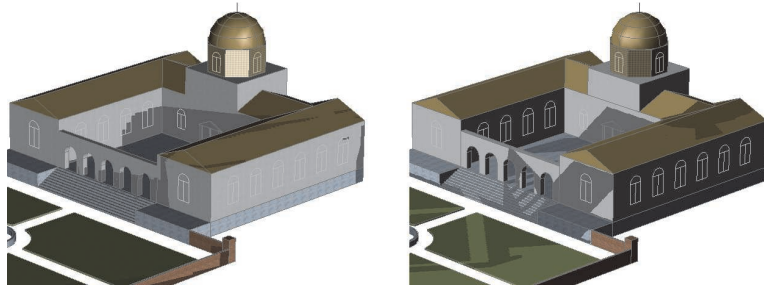

Figure 10–34
One of the easiest lights to work with is the sun. All you need to do is toggle it on. Once it is on, you can set its location, date, and time. This is most effective if you also have shadows toggled on, as shown in Figure 10–34 for two different times of day.
- In the *Visualize* tab>Lights panel and Sun & Location panel (shown in Figure 10–35), you can toggle on shadows, toggle on the sun, and set the location, date, and time.